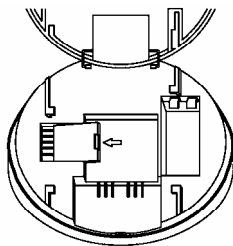

Figure 9.5
- 9.1.5 By inserting this LIFTHC chip into the smoke alarm as shown in the diagram, it will allow your smoke alarm to be wired to the remote test and hush plate (LIFTHP). If your smoke alarms are interconnected, you would require a LIFTHC chip for each smoke alarm. (see figure 9.5)